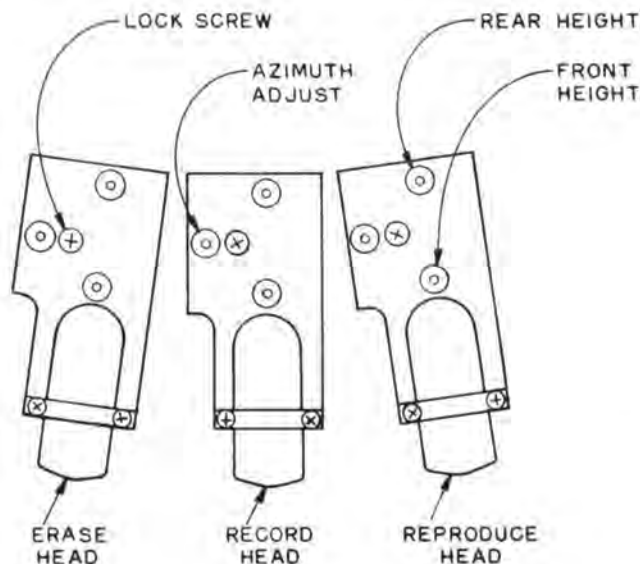

FIGURE 4-2
6. Carefully adjust the record head azimuth for maximum reading on the voltmeter (reduce the record level as necessary to keep the voltmeter on scale). Refer to Figure 4-2 for location of the record head azimuth control.